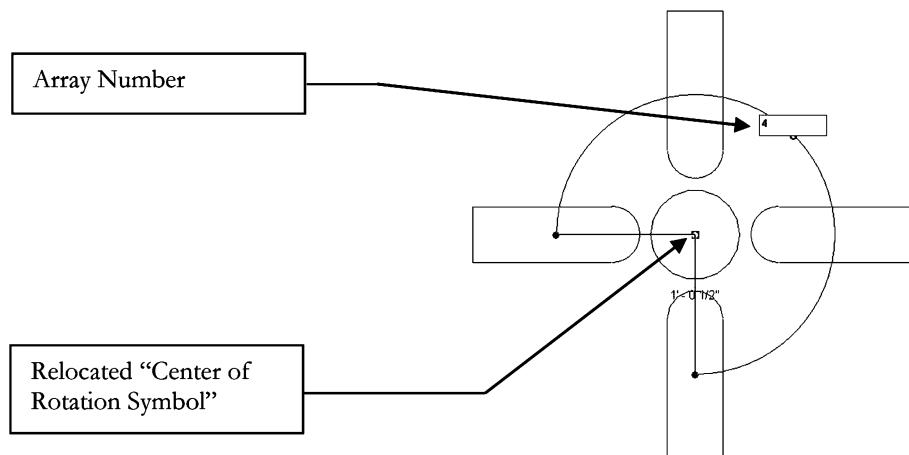

FIGURE 4-2.19 Arraying fan blades
76. Click **Radial** on the *Options Bar* and then click and *drag* the **Rotation grip** to the center of the 8" circle (or click the *Place* button on the *Options Bar*); make sure Revit snaps to the center point before clicking (see Figure 4-2.19).